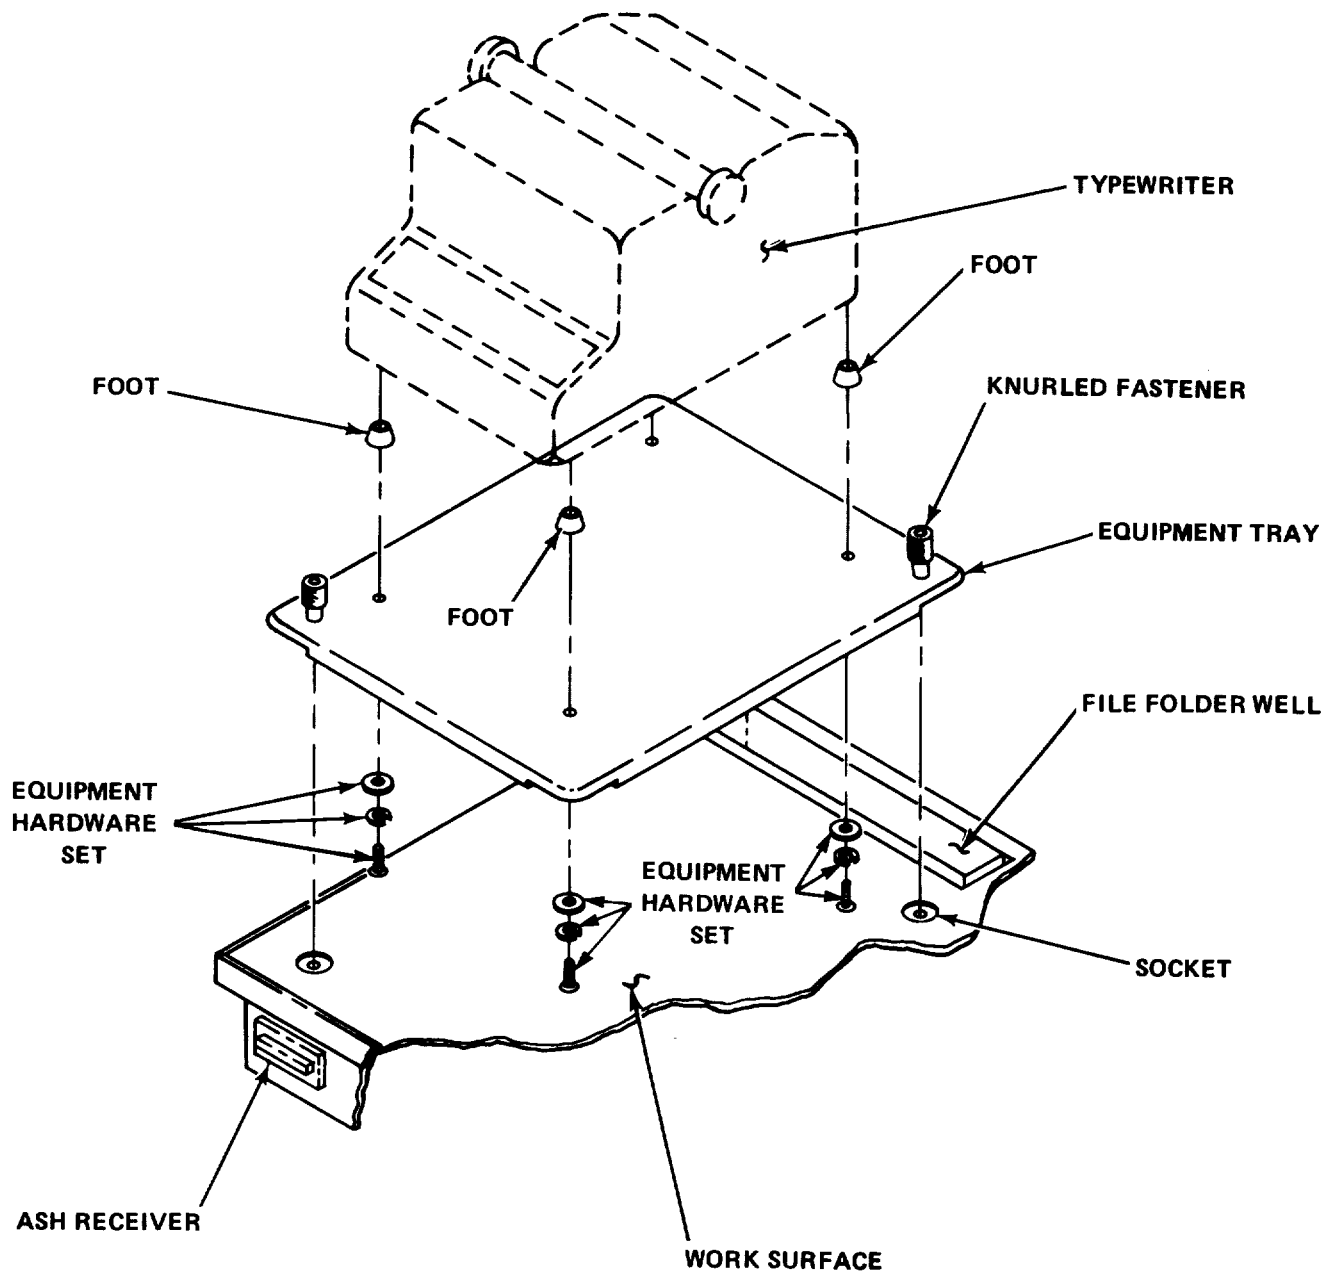

Figure 2-2. Equipment Tray Installation
(1) To release equipment tray for operation, turn the two knurled fasteners (figure 2-2) counterclockwise until the release springs are unlocked and the fasteners are up and free-turning.
(2) To mount typewriter to equipment tray, remove typewriter mounting hardware from feet of typewriter.
(2) Turn black knob at center of doors clockwise until it hits stop.
d. Equipment Tray. Refer to figure 2-2. Secure equipment tray to console work surface as follows:
(1) Position equipment tray on work surface.
(2) Press one knurled fastener and use extended screw pin as a locator for its socket.
(3) Hand tighten fastener in clockwise direction until tray is locked down.
(4) Repeat steps (2) and (3), above for other knurled fastener of equipment tray.